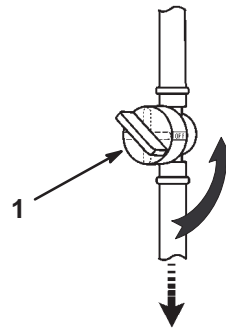

Figure 32
6. Close the fuel shutoff valve (Fig. 32).